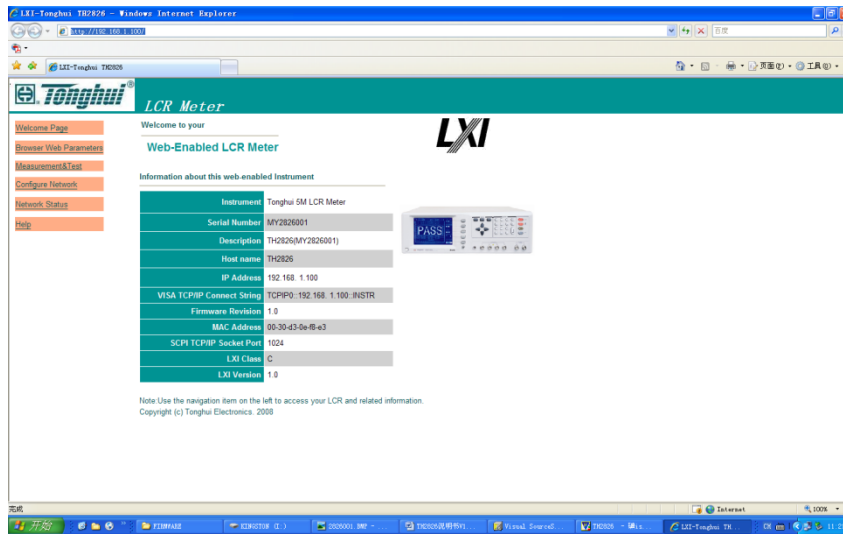

Figure 6-8 Access to TH2515 through a Browser
- (1) Start up Internet Explorer.
- (2) Input <http://192.168.1.28/> in the address zone and then press ENTER to finish inputting.
- (3) The startup screen of Web server is shown as figure 6-8.